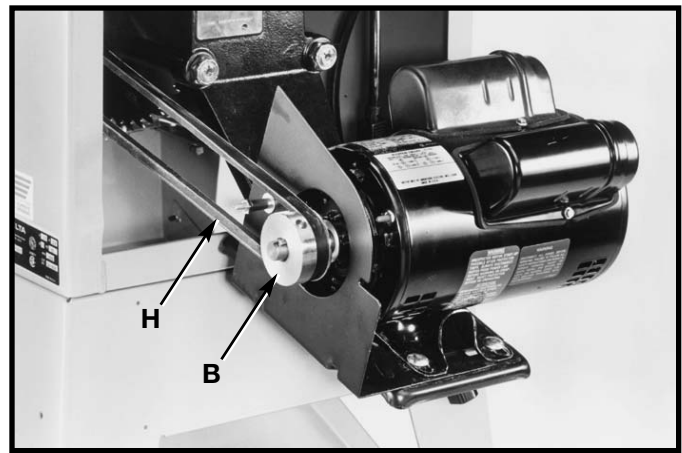

Fig. 19
7. Lift the motor and assemble the drive belt (H) Fig. 19 to the arbor pulley and motor pulley (B). The weight of the motor will provide the correct belt tension.